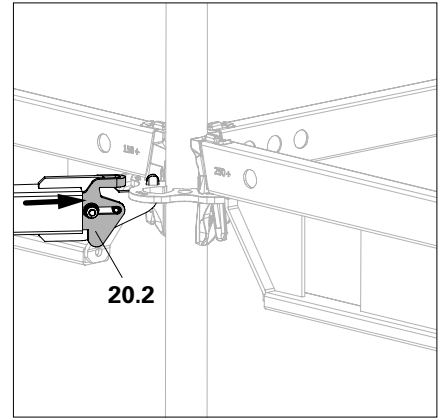
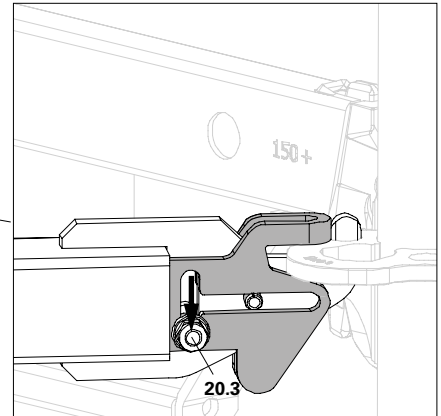

Fig. A4.01d
Fig. A4.01f
- 3. Push the slider in the direction of the rosette until the locking pin **(20.3)** falls into the longitudinal groove. (Fig. A4.01d – Fig. A4.01f)